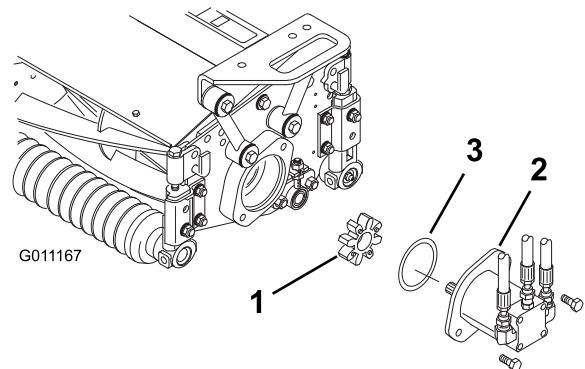

Figure 21
4. Locate the spider coupling (Figure 21) shipped in the bearing housing.